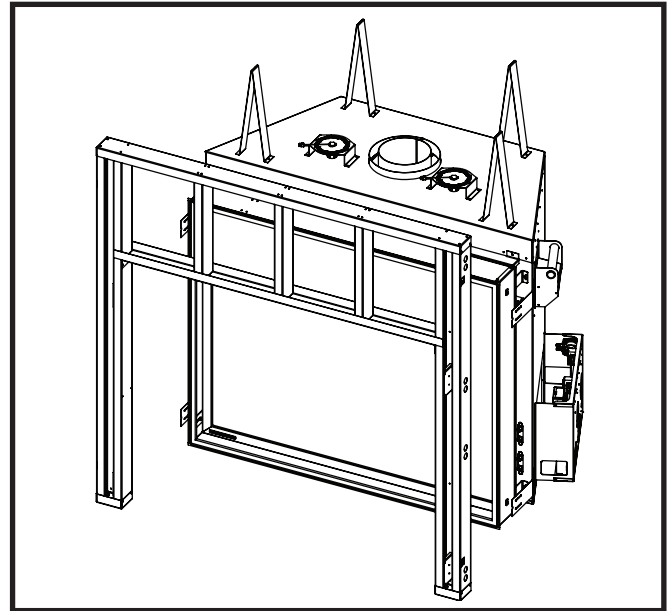

Figure 16: Align the assembled frame with the fireplace.
- Align the assembled frame to the unit framing brackets (Figure 16). Align the framing plates (8) to the fastening points through the access holes in the outer side studs (3).